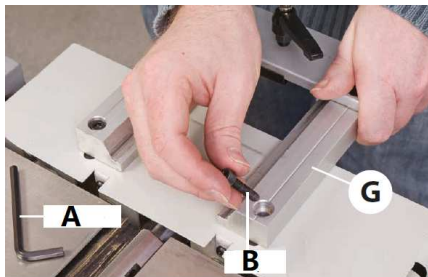

Fig 3
Line up the mounting bracket (G) pre-drilled holes with the threaded holes mid table to the rear of planer thicknesser and secure using the two cap head screws (B, Fig 3), With hex key (A, Fig 3) .